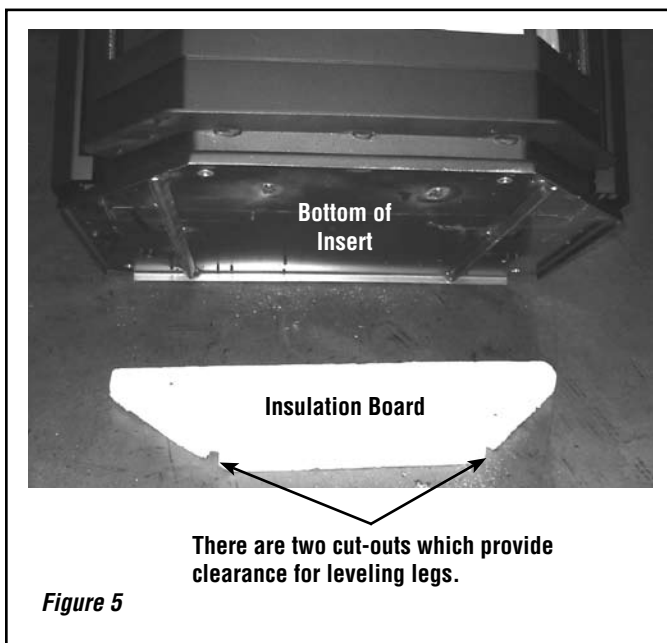

Figure 5
Step 3. Set the insert on the insulation board. Now that the insert is level, place your insulation board in place where the insert will be installed and set the PI40 insert over the insulation board so the two front leveling legs line up with the two cut-outs in the front of the insulation board (see **Figure 5**). Your PI40 heat kit is now installed.